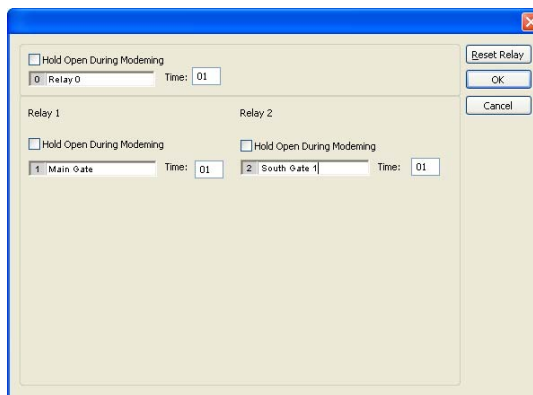

Figure 17
3. Click in the name field, then enter a name for the relay. This is the name that will appear on the transaction reports, for example: "Main Gate" or "Side Gate". The maximum characters that can be entered in this field is 12 (Fig 17).